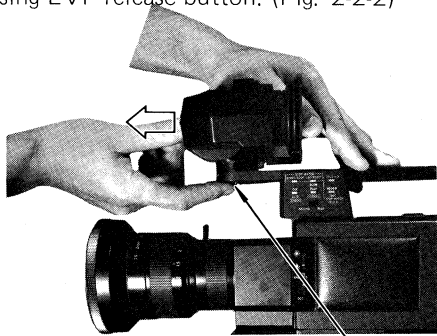

Fig. 2-2-2
- Remove the viewfinder by pulling it forward while pressing EVF release button. (Fig. 2-2-2)